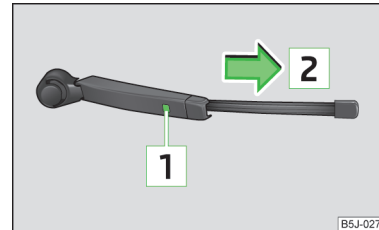

Fig. 52
- › Raise the wiper arm away from the window » Fig. 52.